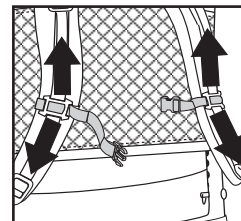

Figure 2K
E. OPTIONAL- Position the sternum strap (Figure 2K) on your chest, and pull it snug. The sternum strap should cross your chest high, just below your clavicle, so it doesn't interfere with your breathing. Some people find it more comfortable not to use the sternum strap when breathing hard—especially at altitude.